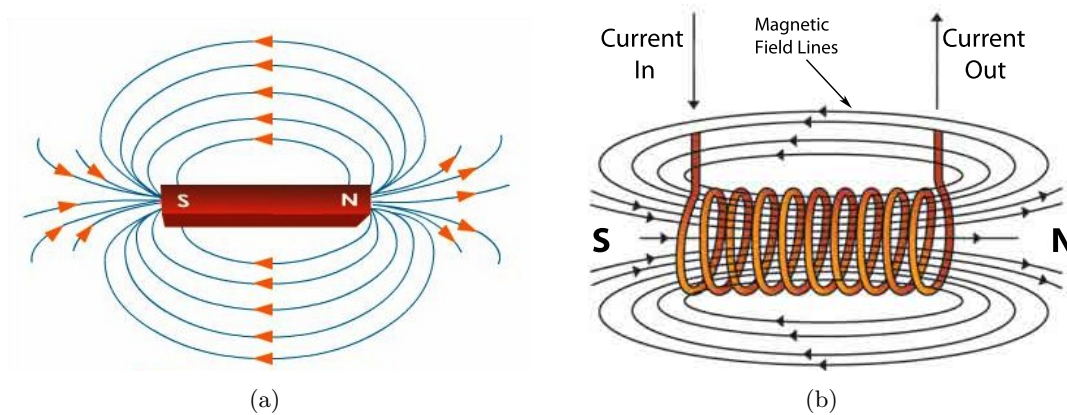

Figure 4: Field produced by a permanent magnet (a) field produced by an electromagnet (b).
In order to understand how a speaker functions, we must first introduce one simple concept called **electromagnetic induction**. When **electric current** flows through a coil of wire, it produces a magnetic field. Figure 4 shows (a) the magnetic field lines of a permanent bar magnet and (b) the field lines produced when current flows through a coil. If we pass a **direct current** (DC) through the coil, it will produce a stationary field like the one shown in Figure 4 (b), which is equivalent to the permanent magnet's field.